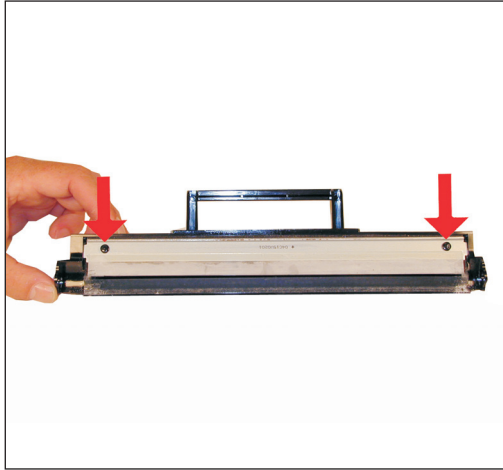

Figure 10
7) Remove the two screws on the wiper blade, and the blade. Clean out the waste chamber. The screws for the wiper blade are smaller than the end cap screws. See Figure 10